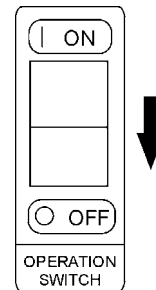

Figure 24. Generators On/Off Switch (Off)
4. To shut-down the engine, place the generator's operation switch (Figure 24) in the **OFF** position.